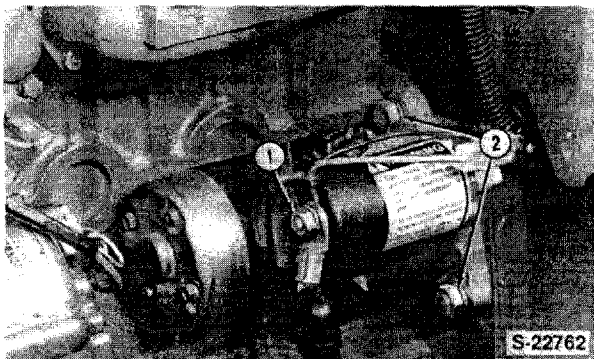

Figure 35
2. Remove the plastic covers and disconnect the wiring from the starter motor assembly, Figure 35.